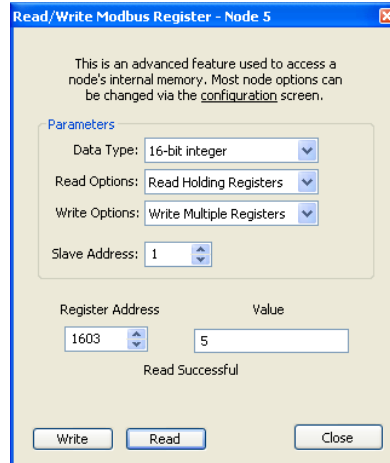

Figure 1. Read 16-bit Integer
Figure 1 illustrates the following procedure to read a 16-bit register.
5. Press the read button. Figure 1 shows that the CT rating was set to 5.